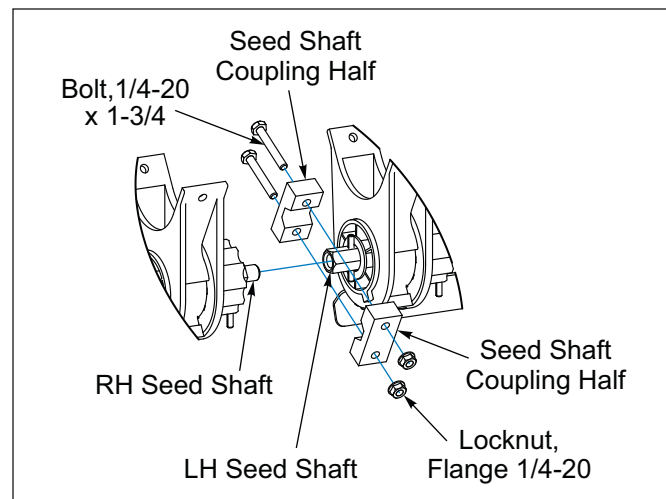

Figure 2-44: Front Box Seed Shaft Coupler
8. At the center of the Seeder where the RH and LH Hex Seed Shafts come together, remove Seed Shaft Coupling and unscrew RH Seed Shaft from LH Seed Shaft. **See Figure 2-44.**